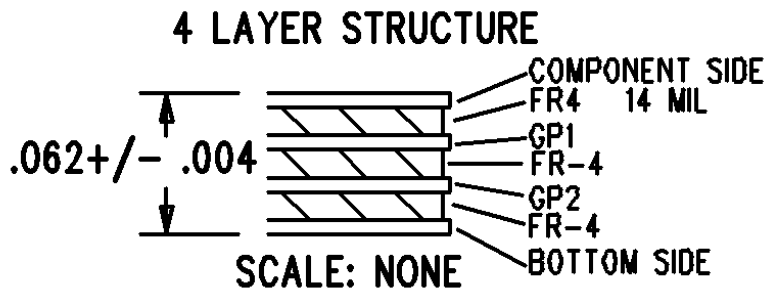

Figure 8. XOCLCC6EVB Evaluation Board Layer Lamination Stackup
- Evaluation Board Lamination Stackup (Figure 8)